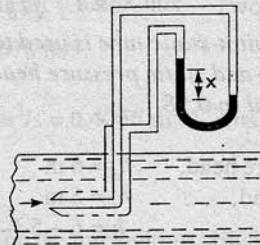

Fig. 6.17
4. Pitot-static tube, which consists of two circular concentric tubes one inside the other with some annular space in between as shown in Fig. 6.17. The outlet of these two tubes are connected to the differential manometer where the difference of pressure head 'h' is measured by knowing the difference of the levels of the manometer liquid say x . Then $h = x \left[\frac{S_g}{S_o} - 1 \right]$.